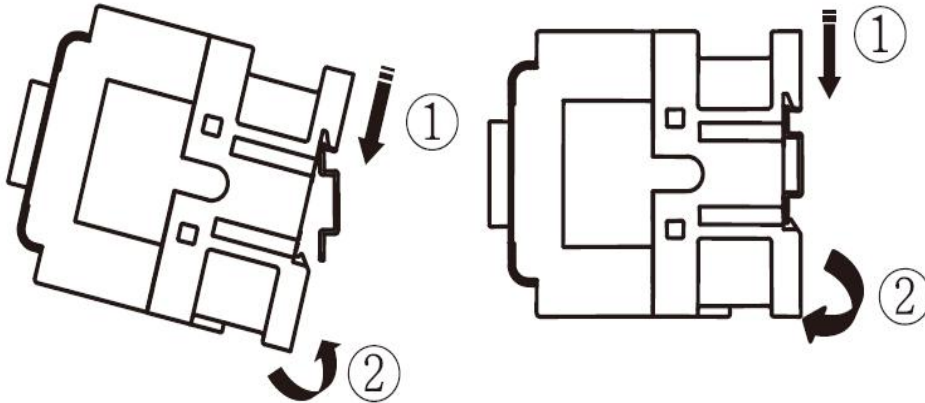
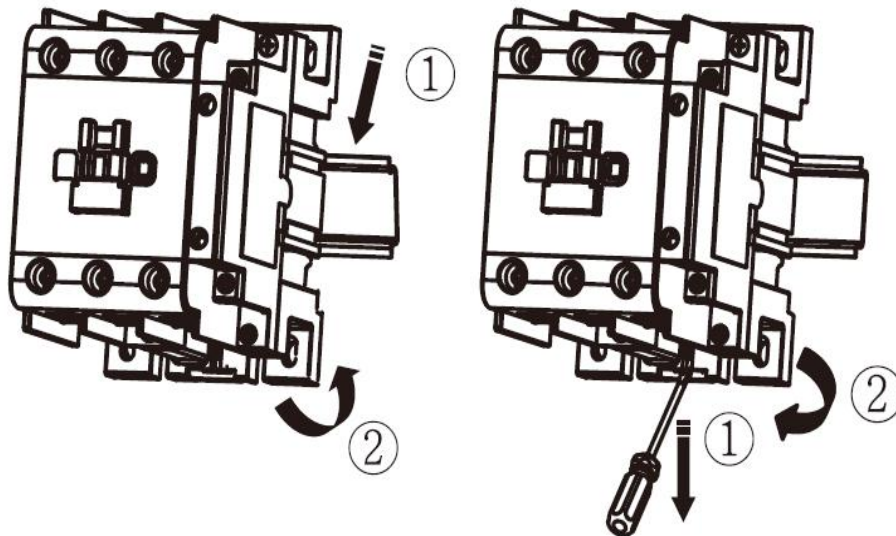

Fig. 2 CJX2s(K)-06~38
Fig. 3 CJX2s(K)-40~95
- The contactor has two installation methods: screw installation and rail installation. CJX2s(K)-06~38 can be installed with 35mm standard rail, and CJX2s(K)-40~95 can be installed with 35mm or 75mm standard rail. Before installation, check that the rated voltage and frequency of the coil are consistent with the control power supply, and the contactor is damaged. Or it is forbidden to use when the assembly is not firm. See Figure 2 and Figure 3 for installation and disassembly methods.